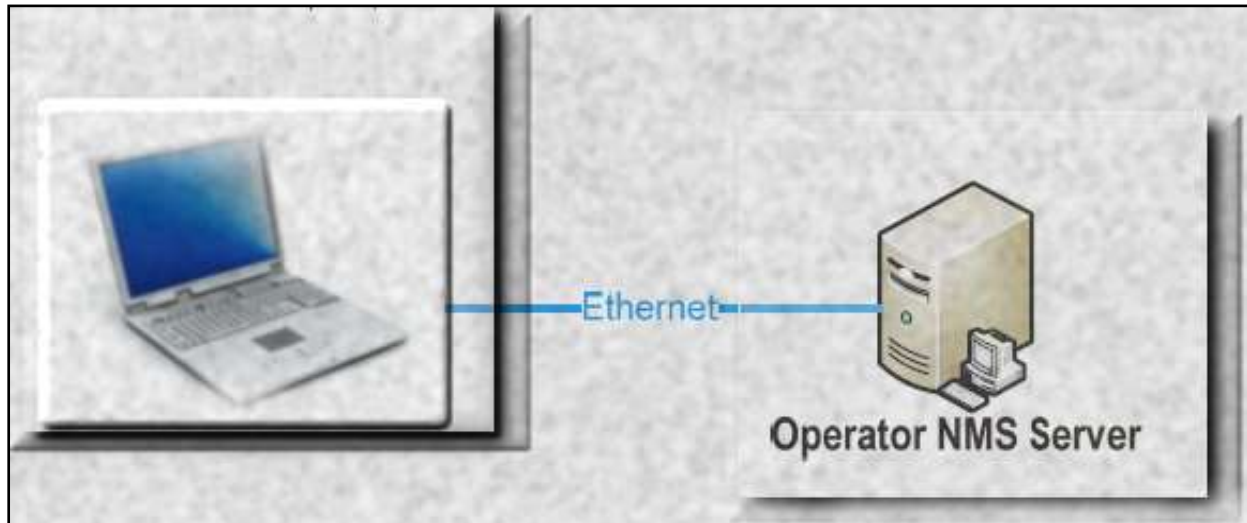

Figure 4-33. Connecting the Monitoring Device to the Server
1. Connect the laptop, PC or terminal to the server through the hub using a crossover cable, **Figure 4-33**. The monitoring device may also be plugged directly into the server with a crossover cable.